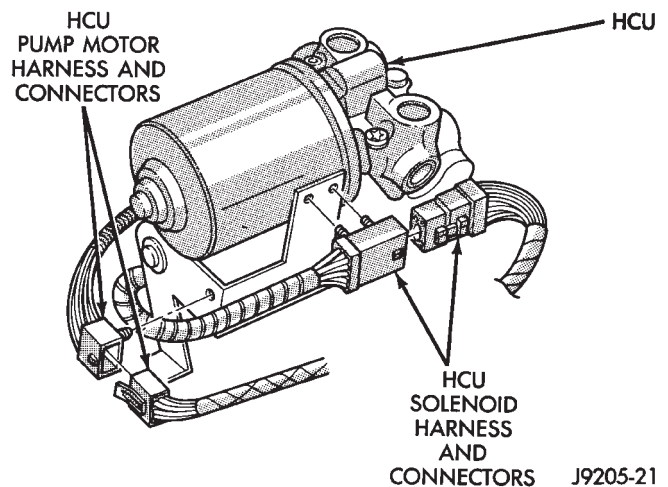

Fig. 15 HCU Wire Harness Connections
- (3) Position suitable size fluid drain container under master cylinder reservoir hoses. Disconnect reservoir hoses from HCU and drain fluid into container. Discard old fluid and remove reservoir.
- (4) Disconnect pump motor and solenoid harness wires at HCU (Fig. 15).